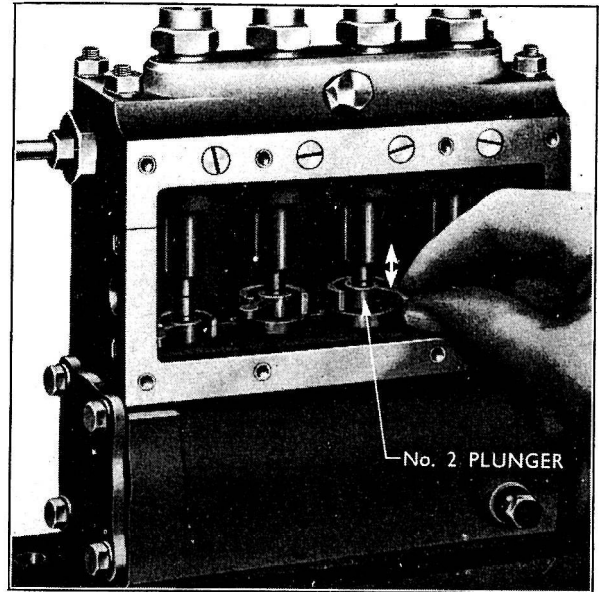

Fig. 22.
22. Refit the pump housing to the cambox, again omitting the plunger springs, and check that plunger head clearance exists on each element with the plunger at the top of its stroke (see Fig. 22).